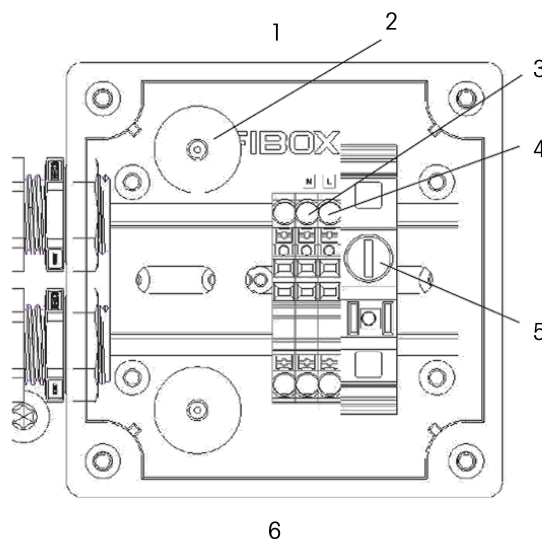

Figure 6: Main Power Box Schematic
- The RMS8120i analyzer is equipped with an AC power terminal for connecting the AC power cables (Figure 6).
- The live and neutral connections are spring terminals in their respective terminal blocks, identified in Figure 6.
- The earth/ground connection is a 10-32 UNF threaded stud on the back plate, accessed from inside the terminal box and identified in Figure 6.